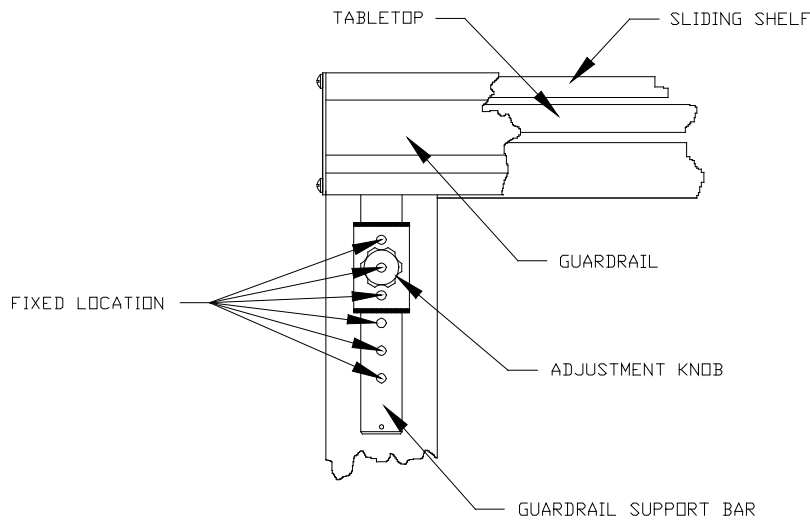
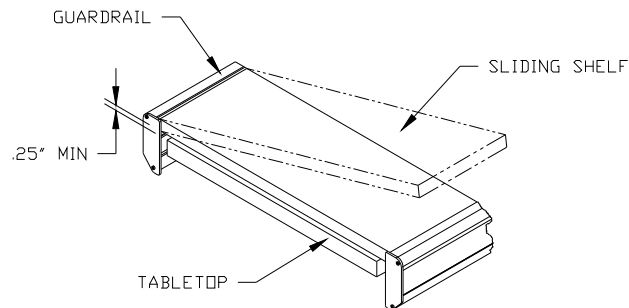

Fig. 6 9100/9200 Guardrail Height Adjustment.
Fig. 7 Sliding Shelf Illustration
2. To adjust the Guardrail height, loosen the Adjustment Knob on both sides of the Guardrail and raise or lower the Guardrail evenly (as shown in Fig. 6). It is not necessary for the front and rear Guardrails to be at the same height, except when used with an optional Sliding Shelf, with a Sliding Shelf, the Guardrail must be adjust to allow a minimum of $\frac{1}{4}$ inch clearance between the bottom surface of the Shelf and the Top surface of the tabletop (as shown in Fig. 7).
3. The Sliding Shelf or shelves simply drop onto the front and back guardrails (as shown Fig. 7). They can then be slide into any position desired.